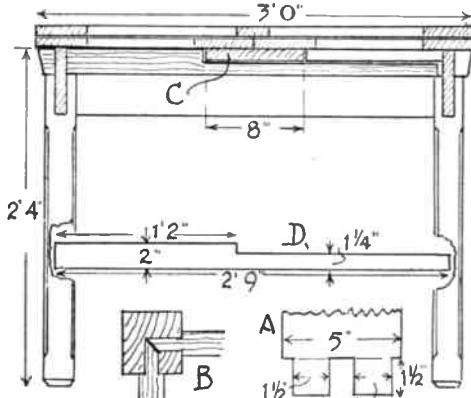
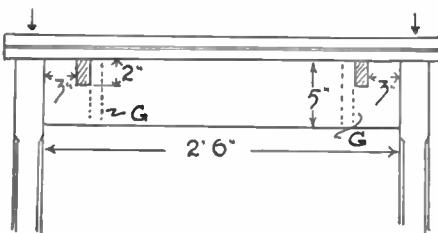

Fig. 1
Fig. 2
A side section of the table is shown in Fig. 1, and an end elevation in Fig. 2. As the area dimensions are the same, the table being a square, measurements not found in Fig. 2, can be gained from Fig. 1. For construction, beech is suggested for the legs and oak or other suitable hardwood, which will take a stain to imitate it, are recommended for the rails and slides of the extending parts of the table top. For the tops, both extending and fixed, deal will serve for the frames, with a covering of $\frac{1}{4}$ in. plywood, thus avoiding the rather troublesome business of gluing boards together, edge to edge.
At one end of the table, shown in Fig. 2, a couple of slots are cut for the passage of the slides (to be dealt with later). Similar slots are cut for the same purpose in the opposite end, but as the slides working through these will be inside those of the opposite end, the position of the slots must be at distances of 4ins. from the legs, as will be fairly obvious. Glue all together, and knock the joints well home. Leave for a while for the glue to set hard. Metal plates, shown by dotted outline (G) could use-